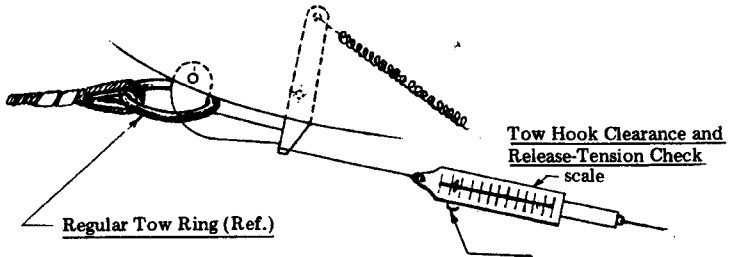

Figure 2
- d. Tow hook release spring tension is checked by applying a force of 9 - 20 lbs. at the end of the release arm. The hook should then release. If the tension is not within this tolerance, the spring should be replaced. See Figure 2.
- c. Check release mechanism by applying a force of 9 - 20 lbs. Ref. paragraph B. 3. d. and Figure 2.